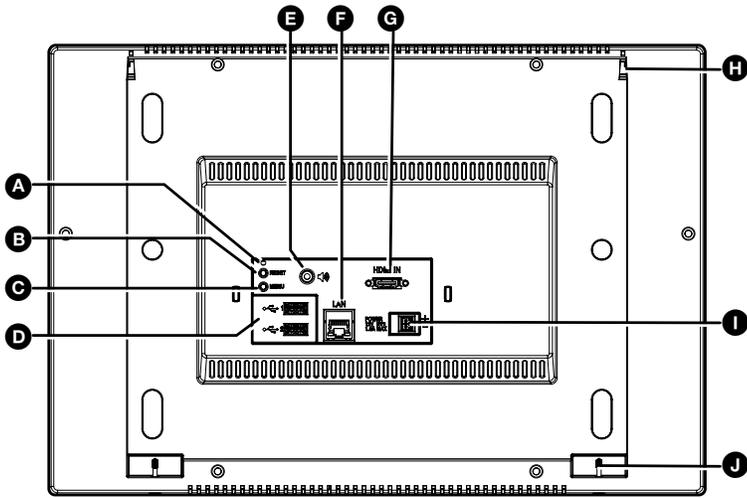

Figure 4. FPC 6000 Rear Panel
- A Power over Ethernet (PoE) power injector is provided with the FPC 6000. Connect the power injector to the FPC 6000 (see figure 4 on page 4).
- Connect the power injector to the LAN and power it on (see figure 4).
6. Insert the two provided Phillips pan head #6-32 x 3/4-inch length screws with washers in the mounting screw slot (see figure 4, J, on the next page). Leave a gap for the flange at the bottom of the mounting plate to fit into.
- **PoE input** — If you use the provided PoE power injector, connect the FPC 6000 to the power injector output and connect the power injector input to the LAN (see figure 4).